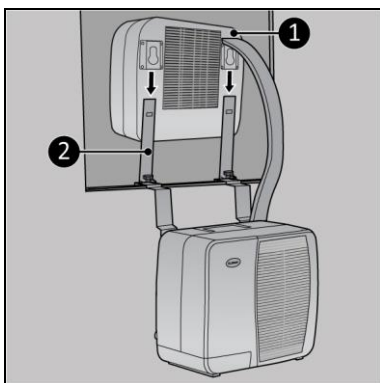

Figure 9
2. Slide the indoor unit over the support brackets (Figure 9, pos. 2).